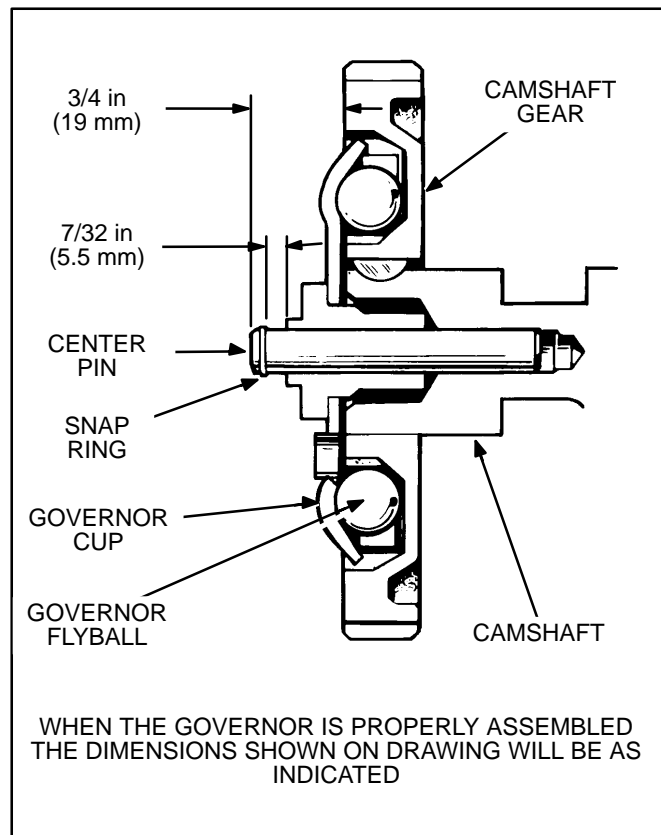

FIGURE 73. GOVERNOR CUP
2. Remove the snap ring from the camshaft center pin (Figure 73).